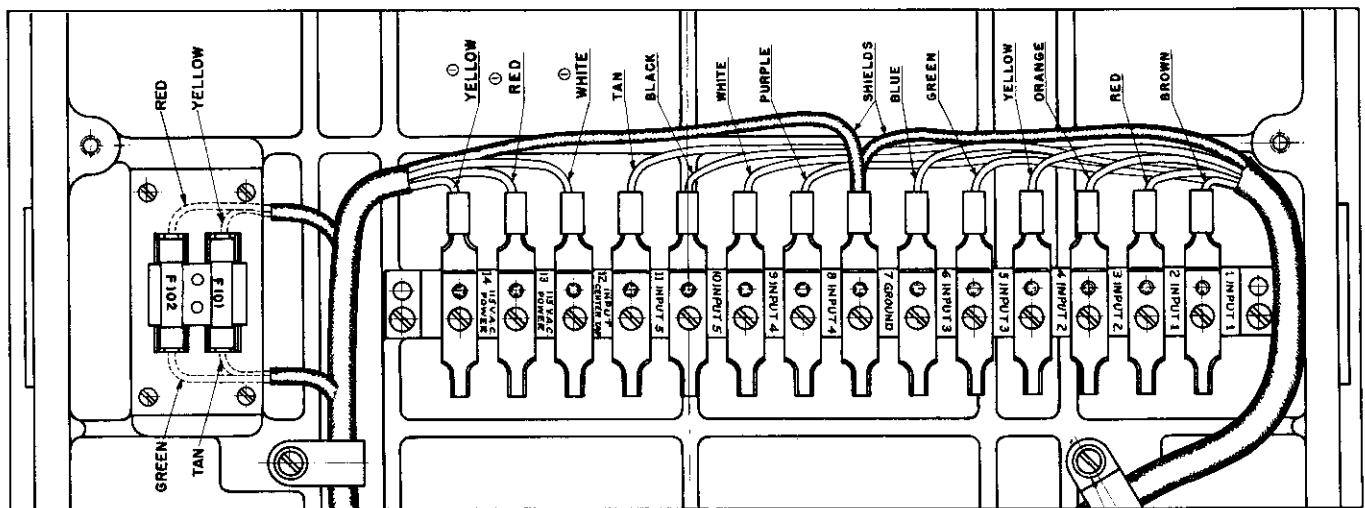

Figure 3-1. Main Terminal Board Diagram
In order to provide for the entrance of the input and power cables, bosses are furnished on each side and on top of the cabinet in which holes may be drilled to fit the cables. Side or top entrance should be made according to the convenience of installation. After the input cable, containing the output of from one to five stations from the central radio receiving equipment, has been introduced to the cabinet, connections should be made to the input terminals indicated in figure 3-1.
- (1) Check the power supply to make sure that the source is 115 volt AC 60 cps.
- (2) Check the fuses.
- (3) Check the circuit continuity through the cables. (see figures 3-1 and 5-5).